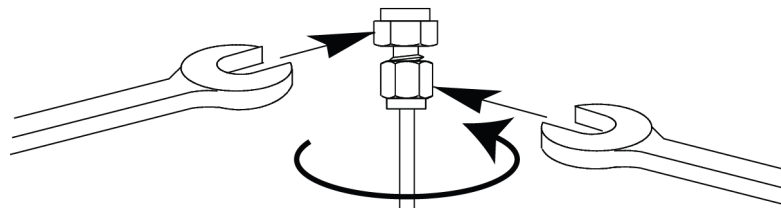

Figure 19. Final tightening
7. For 1/8-inch Swagelok fittings, use a pair of wrenches to tighten the fitting 3/4 of a turn. See Figure 19.